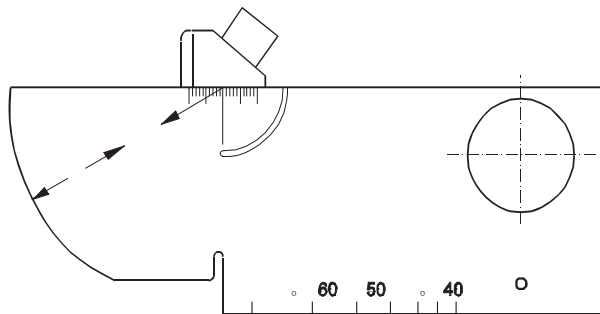
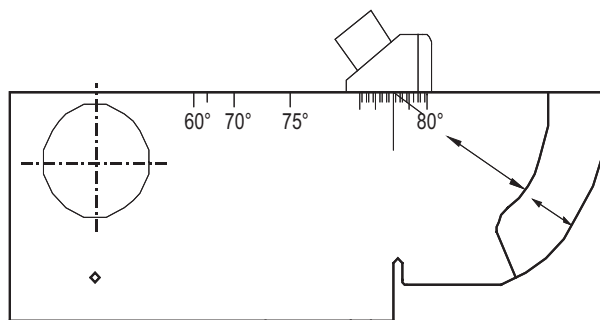
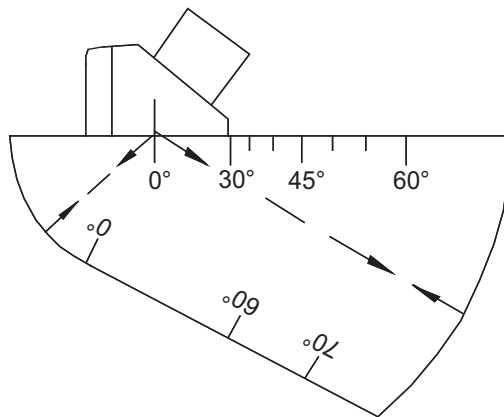

Figure 5-34: IIW Block Type 1
Figure 5-35: IIW Block Type 2
Figure 5-36: B1 Block
4. Place transducer on a calibration block at the index point. Refer to *Figure 5-34* and *Figure 5-35* for IIW Blocks and *Figure 5-36* for the B1 block positions.